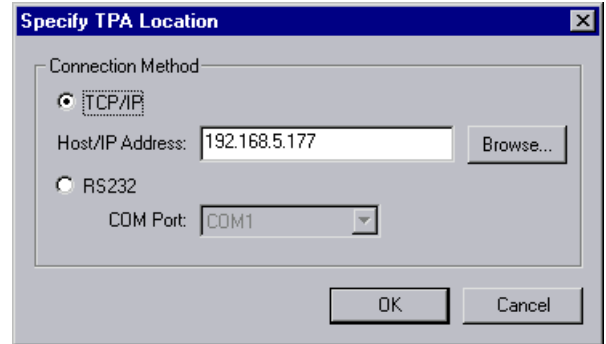
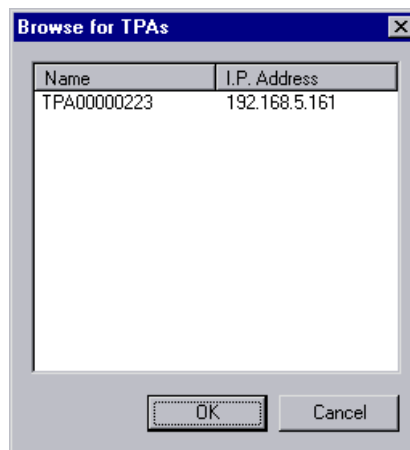

Figure 3-2 TPA location
Figure 3-3 Select MultiTrace
- c. Click on **Change location** to display the Location dialog as shown in Figure 3-2. To specify the location of your MultiTrace unit, either:
- d. If the address to your trace unit is not displayed as shown in Figure 3-2, click **Browse** and select your trace unit from the list as shown in Figure 3-3 on page 3-4.